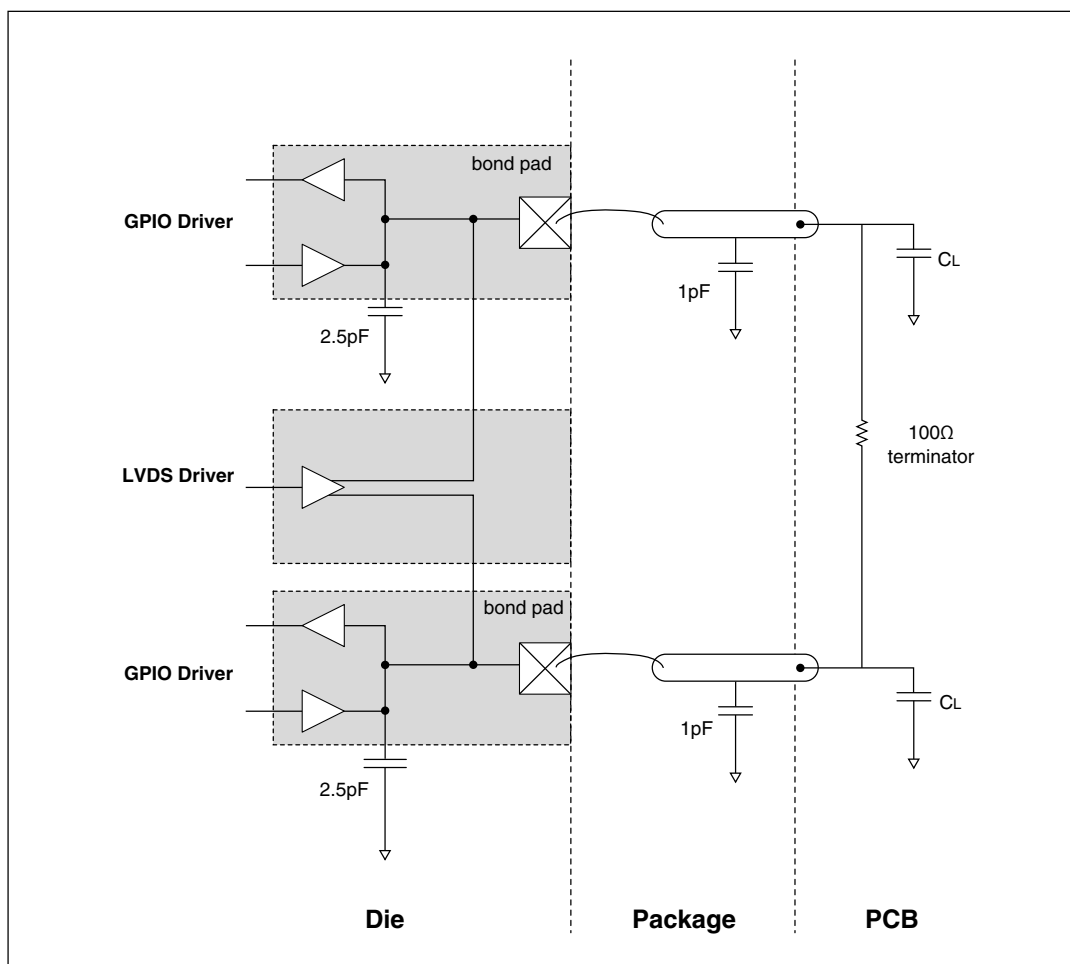

Figure 11. LVDS pad external load diagram
11. Total internal capacitance including receiver and termination, co-bonded GPIO pads, and package contributions. For bare die devices, subtract the package value given in Figure 11.
1. The LFAST pad electrical characteristics are based on worst-case internal capacitance values shown in Figure 11.
2. Valid for maximum data rate f_{DATA}. Value given is the capacitance on each terminal of the differential pair, as shown in Figure 11.
1. The MSC and DSPI LVDS pad electrical characteristics are based on the application circuit and typical worst-case internal capacitance values given in Figure 11.
4. Measured at the transmitter output across a 100 Ohm termination resistor on a device evaluation board. See Figure 11.